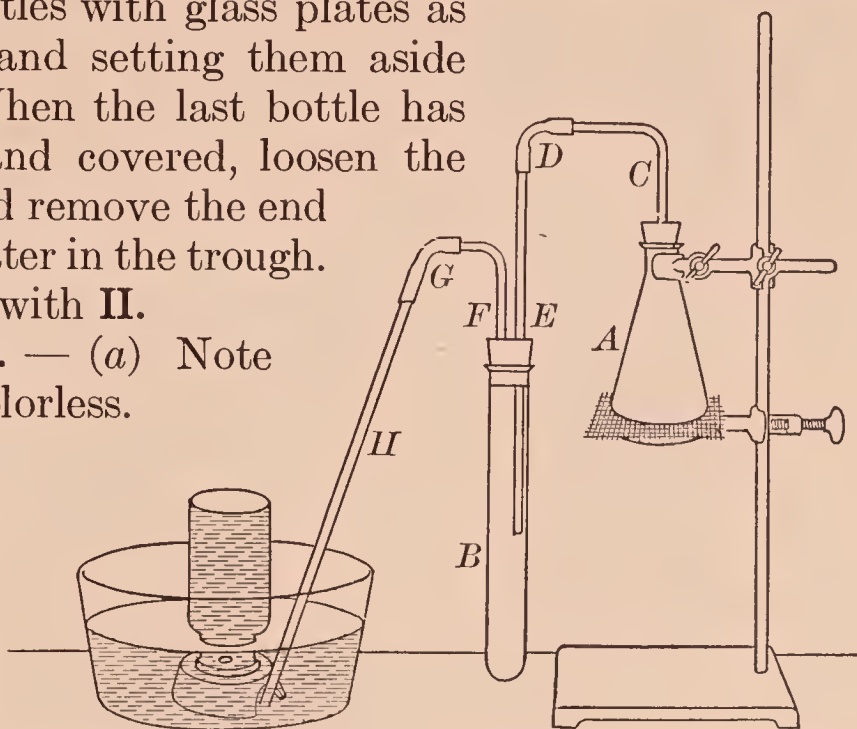

FIG. 15. — Apparatus for preparing carbon monoxide
APPARATUS. — As in Fig. 15.
**I. Preparation.** — Put 10 gm. of oxalic acid in the flask *A* (Fig. 15), and add 25 cc. of concentrated sulfuric acid. Put
enough calcium hydroxide solution in *B* to cover the end of the tube *E*. Arrange the apparatus as in Fig. 15.